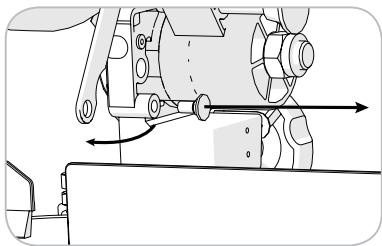

Fig. 23
- Remove the lower guard operating arm from the machine by removing the pivot screw. **(Fig. 23)** Store this screw safely for future use.